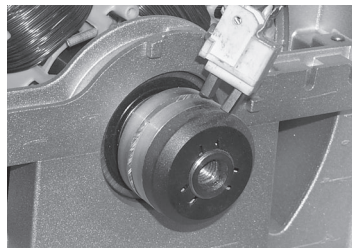

fig. 5
- 2.2 (fig.5) in series ET and FT generators, slacken the screw, remove the brush-holder and check that the brushes protrude by at least 4mm